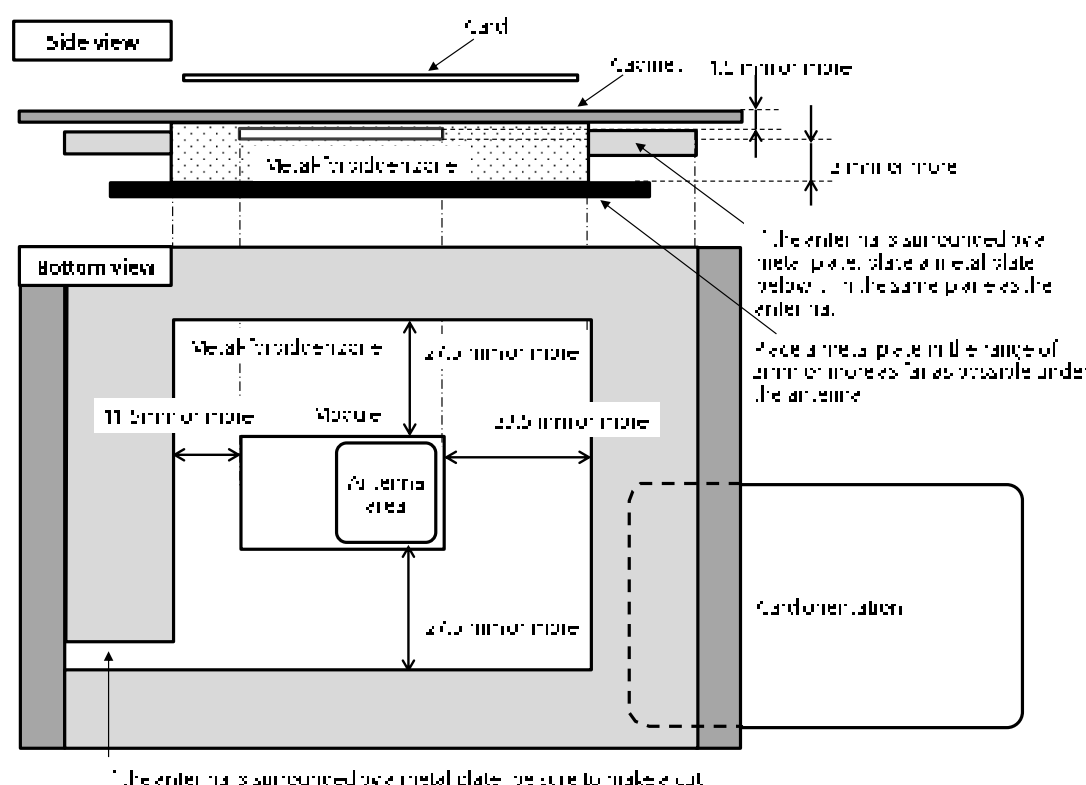

Figure A-1: Installation requirements
- Do not place any metal in the metal forbidden zone (represented by the dot meshed area in Figure A-1) secured around the module. Specifically, communication performance undoubtedly deteriorates if any plate-like metal is placed near the module.